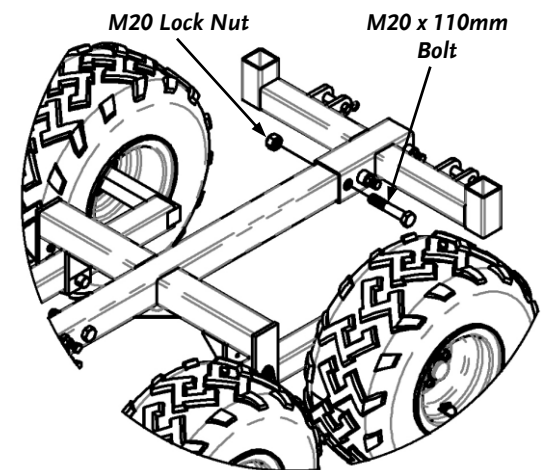

Figure 39
2. Line up the through Hole in the Rear Support and Main Frame and install the M20 x 110mm Bolt (**Figure 39**) through the Rear Support and Main Frame and secure with the M20 Lock Nut and tighten with a 30mm Socket and Adjustable Wrench.